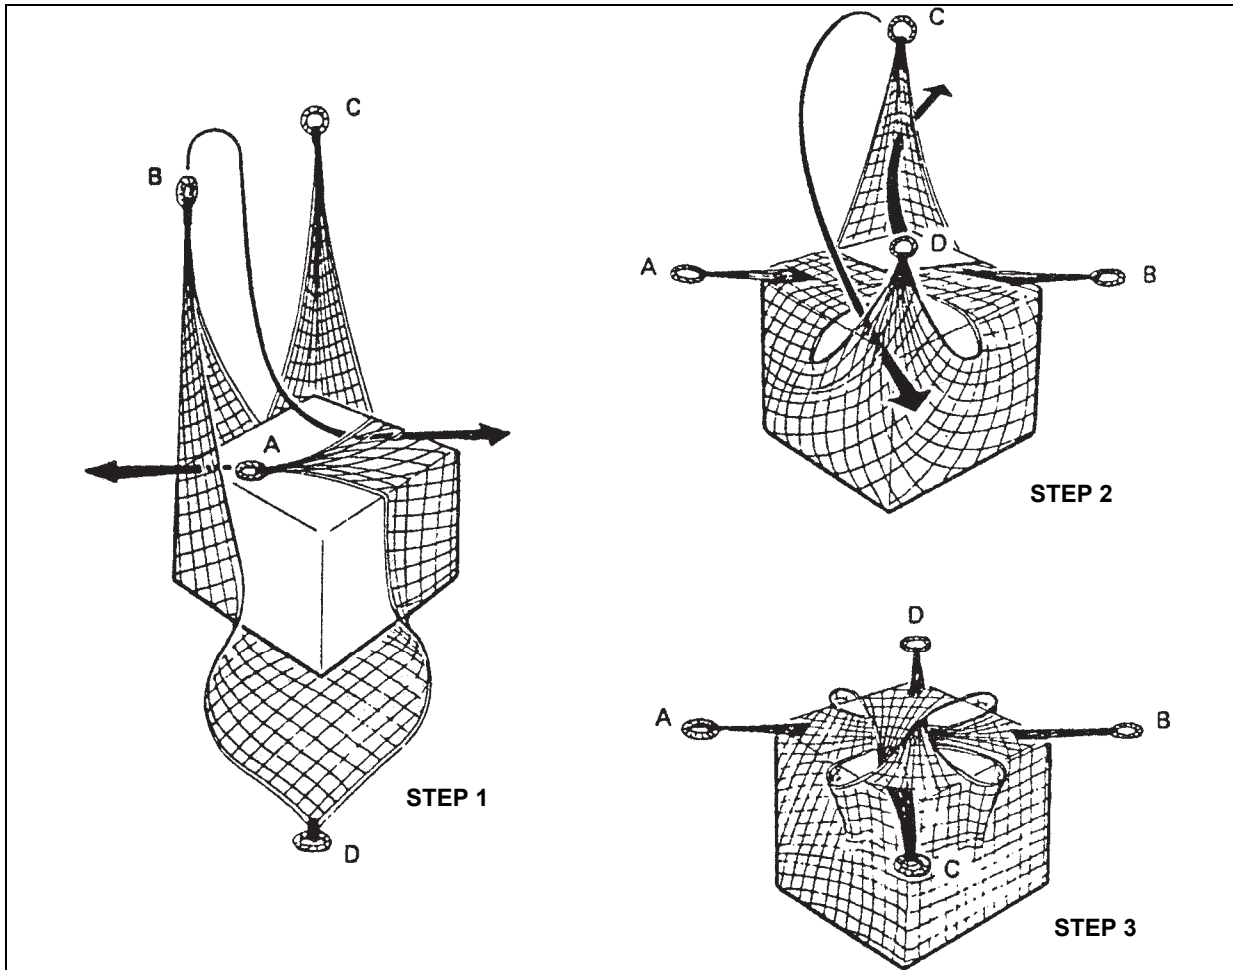

Figure 9-7. Cargo Net with Loose Cargo Secured
- **Cargo Net Loading (Loose Cargo) (figure 9-7).** Use nets for transferring general cargo. Observe the following rules when loading cargo nets:
Note: One method of safeguarding small items against loss in flight is to secure the corners of the net together by taking opposing corner rings and weaving them through at least two web straps in the webbing below the opposite rings. Figure 9-7 illustrates the steps to be used. Fasten the sling leg through all four corner rings. When the helicopter lifts the net, the weight of the load will cinch the net and prevent the items from being lost through the net.